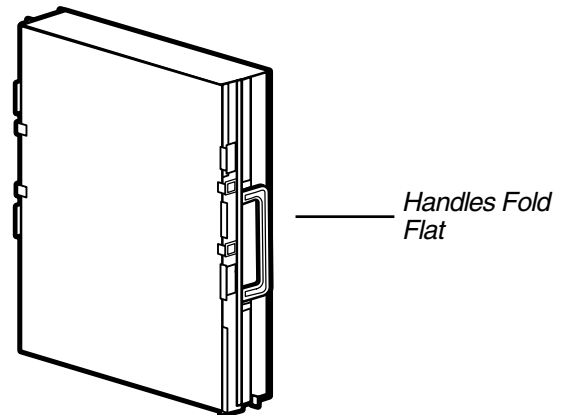

Figure 39
4. When there are no visible water droplets left in the COLLECTION CELLS, reinstall them into the air cleaner cabinet. Be sure to fold the COLLECTION CELL handles flat as shown in Figure 39.